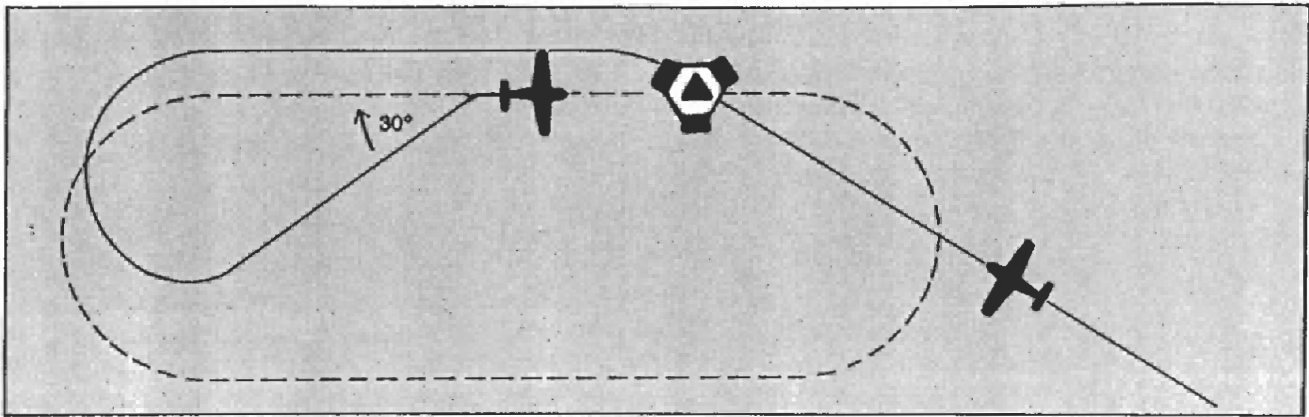

Figure 7-10
3. *The Parallel Entry.* If you approach the fix from the opposite side, and on the holding side, turn left (right for a non-standard pattern) to the outbound course after you cross the fix. Hold this heading, paralleling the outbound course on the non-holding side. After one minute, turn left (for a standard hold) again, cross the course and re-intercept from the holding side. A good intercept angle is given by a heading  $30^\circ$  past the inbound course (figure 7-10).